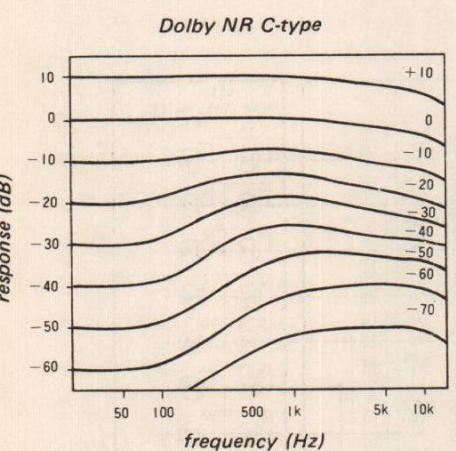

Fig. 1 Encoding characteristics
Simply set the TYPE switch to the B position when playing back a tape recorded using the Dolby NR B-type system. Set to C for tape recorded using the C-type system. (Refer to Fig. 1, 2)
The Dolby NR B-type system thus reduces tape noise by 10 dB at 5 kHz. The C-type system reduces noise by 20 dB at 5 kHz. The Dolby NR C-type system also begins to take effect at frequencies lower than the B-type system. (Refer to Fig. 1, 2)
Therefore, during recording, it shows the encoding characteristics in Fig. 1. During playback, the opposite characteristics of the encode are shown, causing the control signal to be fed back to terminal ⑩ of IC1, IC51, IC2, and IC52.